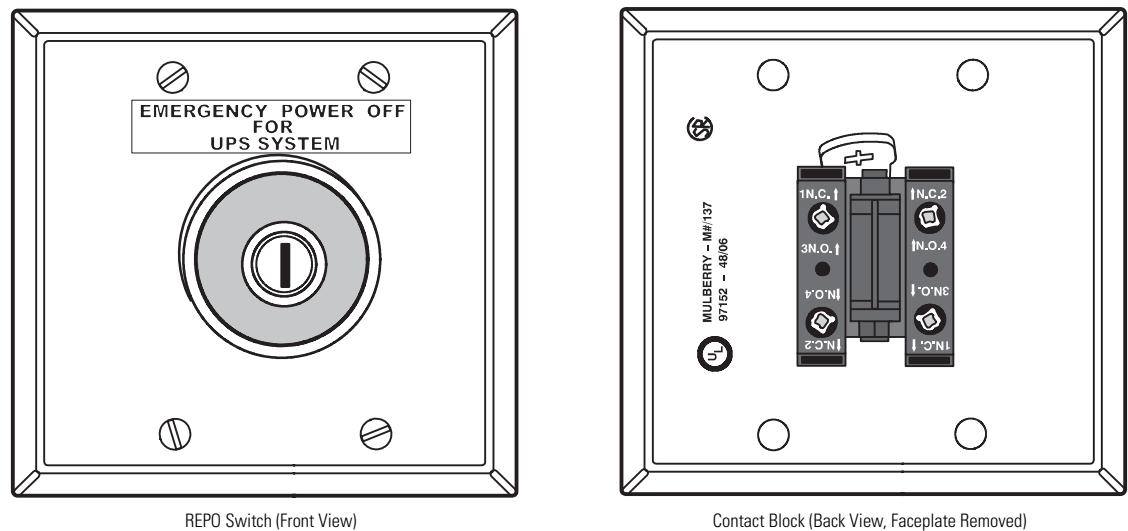

Figure 4-21. REPO Switch
A latching-type Remote Emergency Power-off (REPO) switch can be used in an emergency to shut down the UPS and remove power to the critical load from a location away from where the UPS is installed. Figure 4-21 shows a REPO switch.
17. If required, install wiring from the REPO switch to the trip circuitry of the upstream protective devices. A second contact block is provided on the REPO switch for this function (see Figure 4-21). The REPO switch wiring must be in accordance with NEC Article 725 Class 2 requirements.